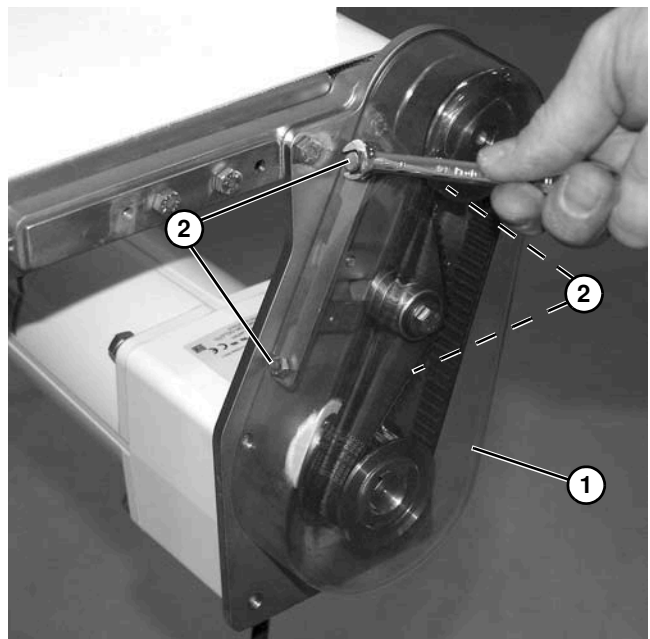

Figure 37
Do not over-tighten screws (**Figure 37, item 2**).
3. Install cover (**Figure 37, item 1**) and tighten four screws (**Figure 37, item 2**).